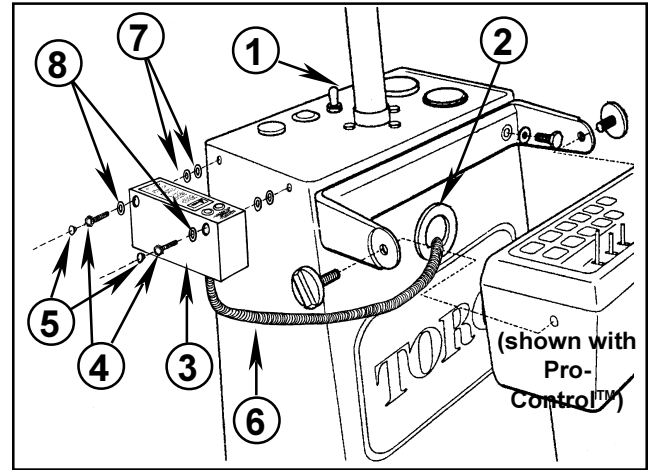

FIG. 15
1. Remove (4) 1/4" x 5/8" washer hd. cap screws to remove Rear Panel on Steering Console. Remove the Knock-out Plug in the front of the Steering Console and insert the Large Grommet as per FIG. 15.
2. Mount Brake Controller on right side of steering column by removing (2) 1/4" bolts and reassembling with Controller as shown in FIG. 15 using (4) 1/4" flat washers, (2) 1/4" spring washers and (2) 1/4" x 3/4" socket hd cap screws. Install Hole Plugs in holes.
4. Route Wiring Harness from Brake Controller through Grommet and down inside of Steering Console. Connect to Brake Switch connectors. Route wiring through leaf spring retainer bracket and to the round hole in the Cross Member on the left side of the Vehicle Frame. Refer to FIG. 15 and the WIRING DIAGRAM on page 7.